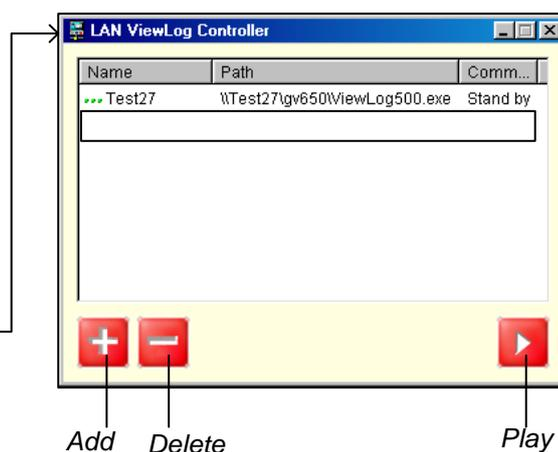

Figure 4-29-2
1. At the local computer, execute **LANViewLogCtrl.exe** to bring up the LAN ViewLog Controller window (Figure 4-29-2).